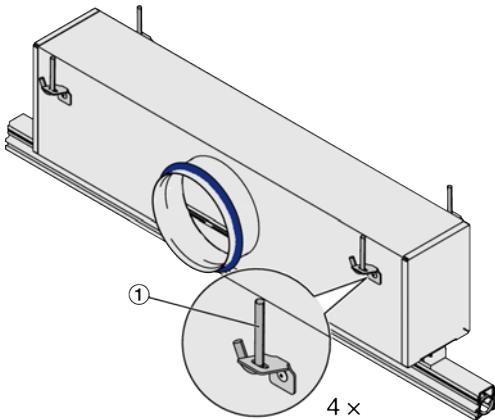

Fig. 2: Plenum box
1. ▶ Fix the suspension parts such as ropes, cables or metal hangers (Fig. 2/1) to the ceiling.